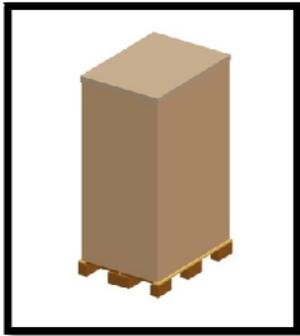

Fig. 2-1
1. Visually inspect the unit for any signs of transit damage (Fig. 2-1). Remove and retain all associated paperwork (packing list, user's manual etc.) that is affixed to the top of the unit. Remove the cardboard lid from the top of the container.